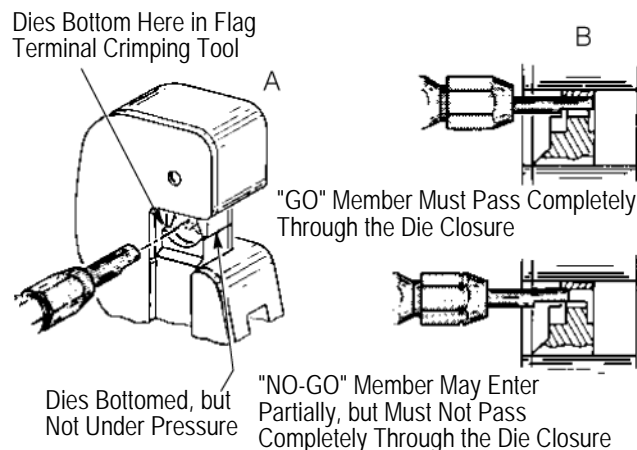

Figure 8
4. Hold gage in straight alignment with the die closure and carefully try to insert, without forcing, the GO member. See Figure 8, Detail A. The GO member must pass completely through the die closure.